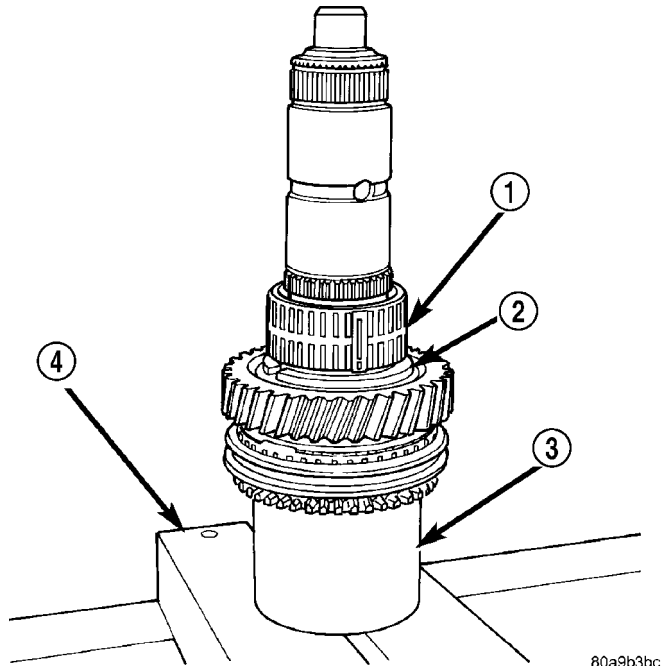

Fig. 62 FIRST GEAR BEARING
(10) Invert output shaft and set shaft in Cup 6310-1 so fifth gear is seated on the tool (Fig. 62).
(11) Install first gear bearing on output shaft (Fig. 62). Verify bearing is seated on shaft shoulder and is properly joined.